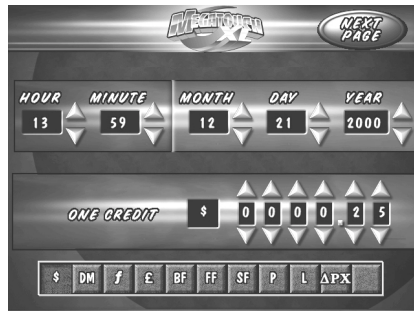

FIGURE 6 - CLOCK/CURRENCY SCREEN
4. At the Clock/Currency Screen (see Figure 6) confirm the correct date and time (if the date and/or time is incorrect, set the correct values using the UP and DOWN arrows next to each field). Set the credit value by touching the UP and DOWN arrows until the desired value is shown. Set the appropriate currency type by touching the desired currency symbol at the bottom of the screen.